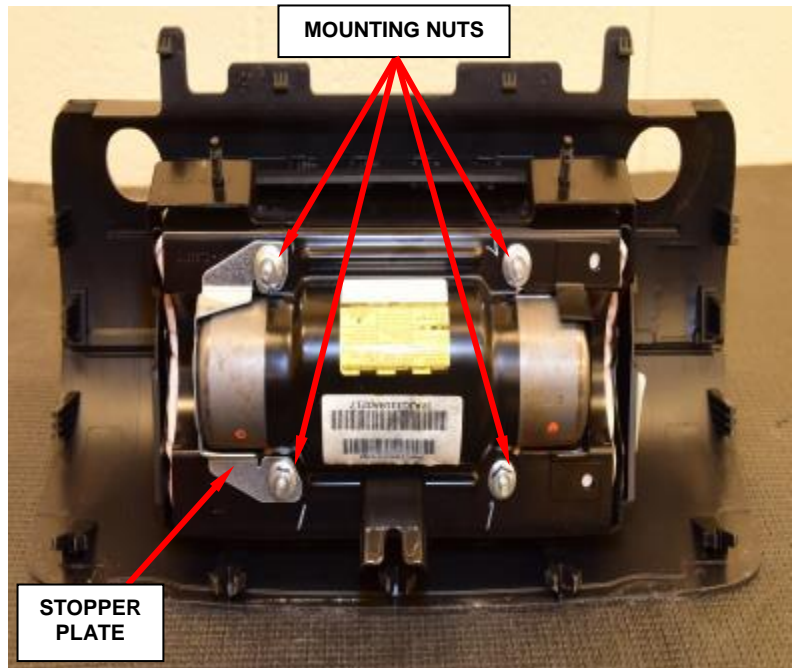

Figure 88 – Mounting Nuts
b. Remove and **discard** the four mounting nuts from the passenger airbag module (Figure 88).